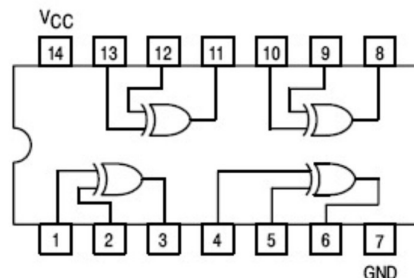

Fig 3.2: 74LS86 2-input X-OR gate IC pin configuration
In order to implement the X-OR operation using IC, the TTL 74LS86 2-input X-OR gate IC can be used. This IC has 14 pin Dual Inline Package (DIP) configuration as shown in fig 3.2. The power supply connections are made to pin 7 and 14. Pin 1 is identified by a small indented circle next to it or by a notch cut out between pin 1 and 14.
- Pin Assignments for the ICs have been shown in Fig 3.2